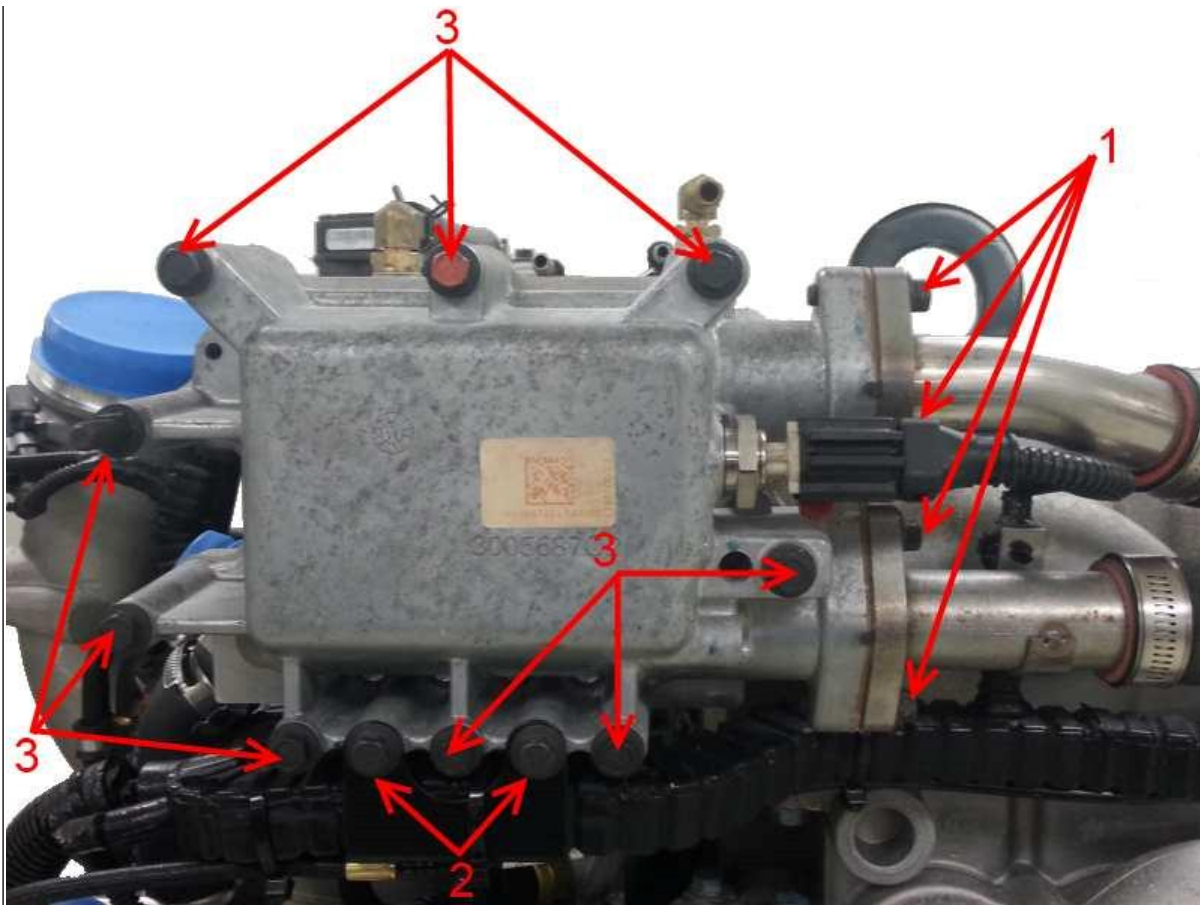

Figure 2: EGR Outlet Cover, Bolts and Tubes
1. Remove the eight bolts and one stud bolt from the front cover, and remove (**Figure 2**, Item 3).